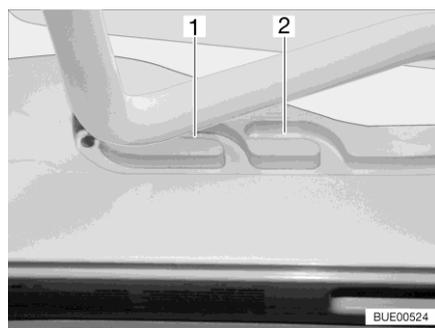

Fig. 35 Guide (ventilation position)
The hinged skylight can be put in two ventilation positions: Bad weather position (Fig. 35,1) and central position (Fig. 35,2).
- Push the bar slightly upwards and into the selected guide (Fig. 35,1 or 2).